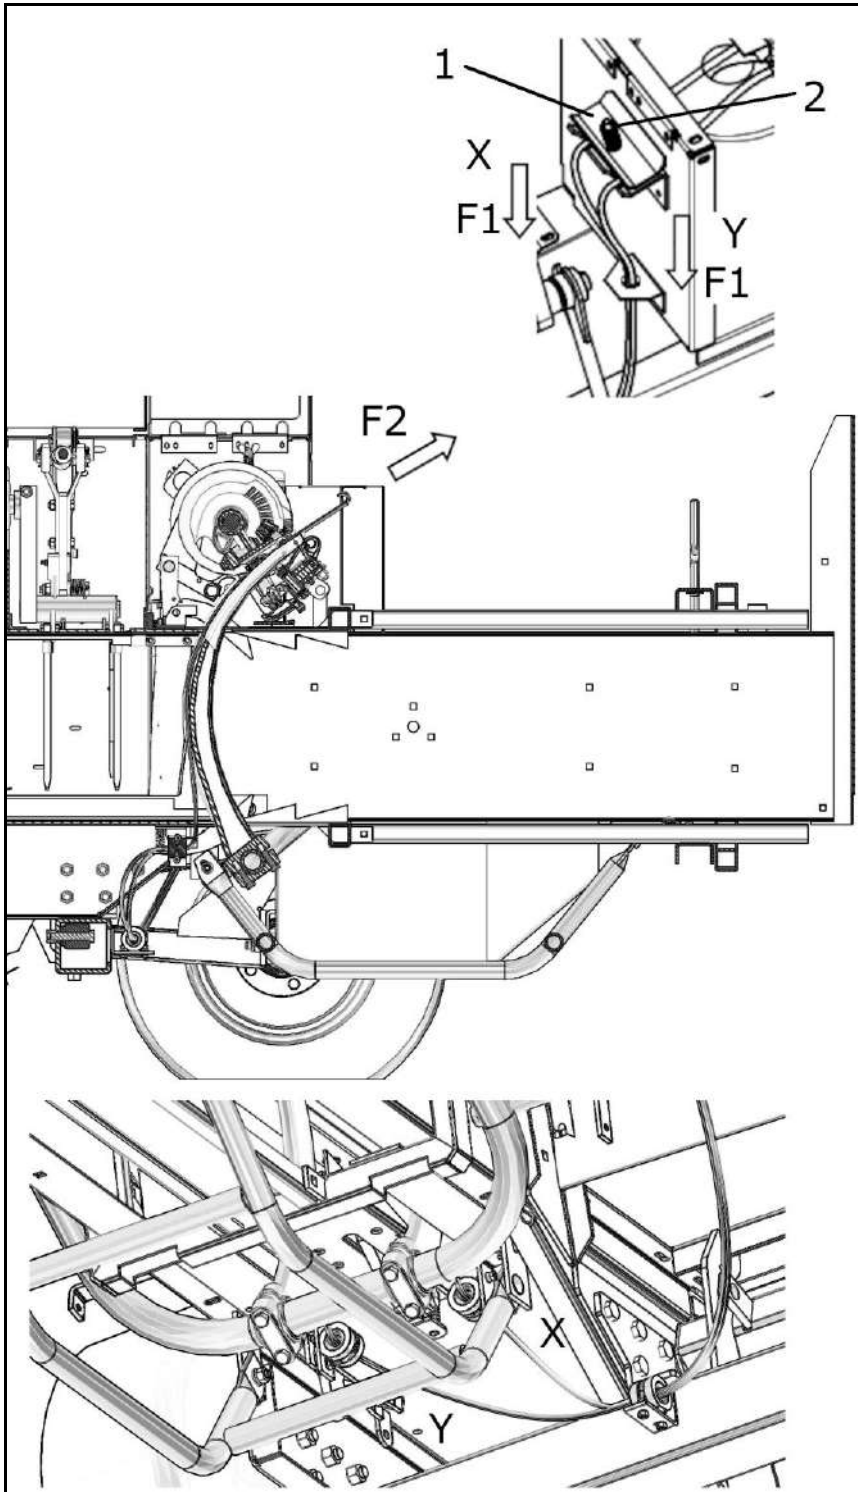

Fig. 7.17
Each twine must come out of the clamp (ref. 1, Fig. 7.17) when subjected to a force $F_1 = 2-3 \text{ kg}$ (Fig. 7.17) and must run along its path outside the needle when subjected to a force $F_2 = 10-14 \text{ kg}$ (Fig. 7.17). If necessary, adjust the pressure of the clamp 1 (Fig. 7.17) with the screw 2 (Fig. 7.17).